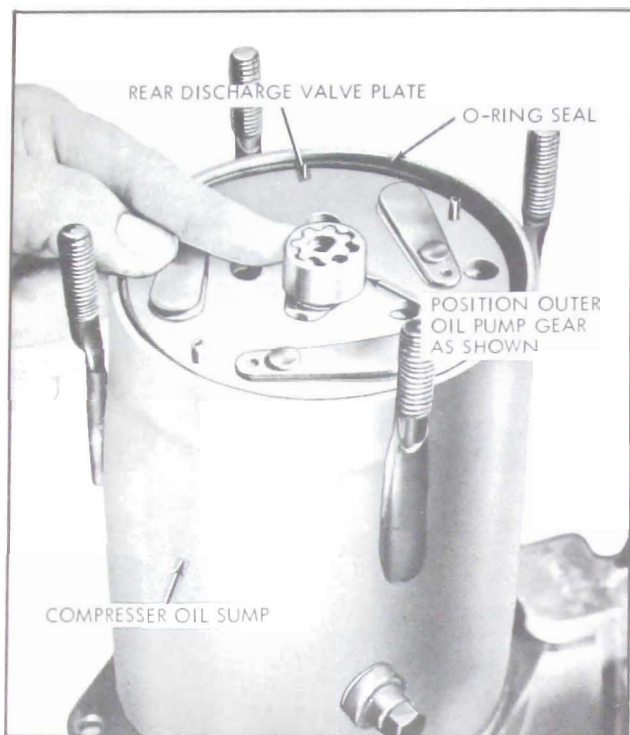

Figure 11-126—Positioning Oil Pump Outer Gear
7. Position the oil pump outer gear as shown in Figure 11-126.